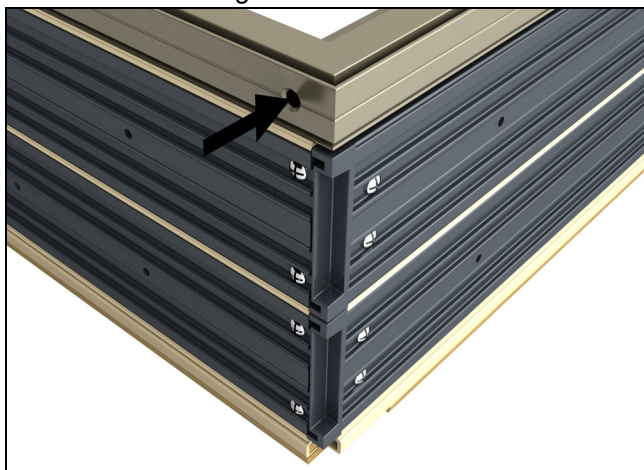

Figure 113
4. Do not install screw into frame cladding miter at this time. See figure 113.